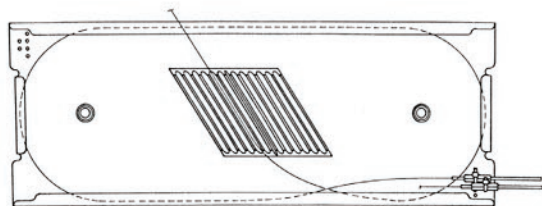

FIGURE 9
8.05 Select the fibers from the opposite direction of transmission and route them around the tray, until the fibers have made one complete loop, Figure 9.